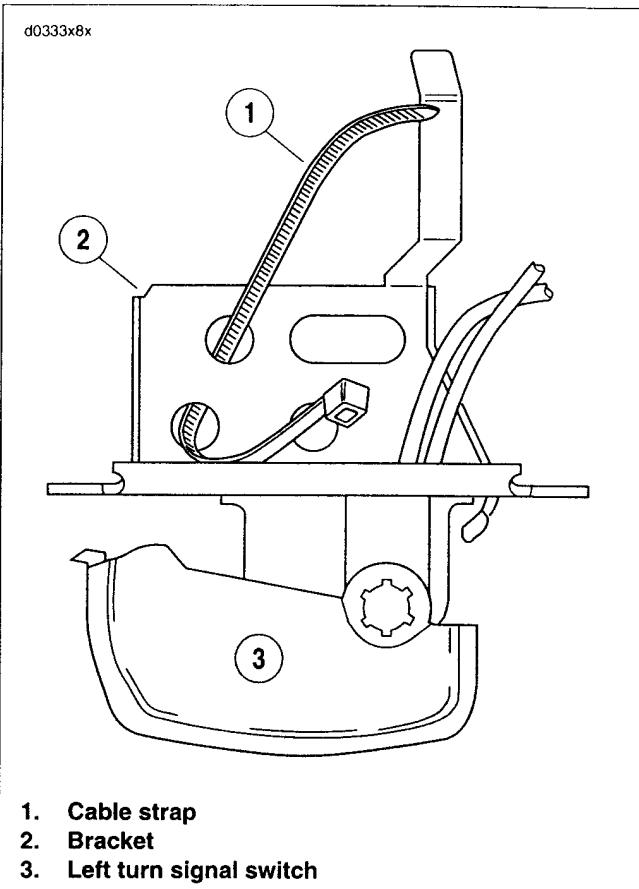

Figure 8-88. Insert Cable Strap in Switch Bracket
1. See Figure 8-88. Insert tapered end of new 7.0 in. (177.8 mm) cable strap (1) into round hole in turn signal switch bracket (2) and then feed back through using the adjacent hole. Reserve the oblong hole for the bracket screw.